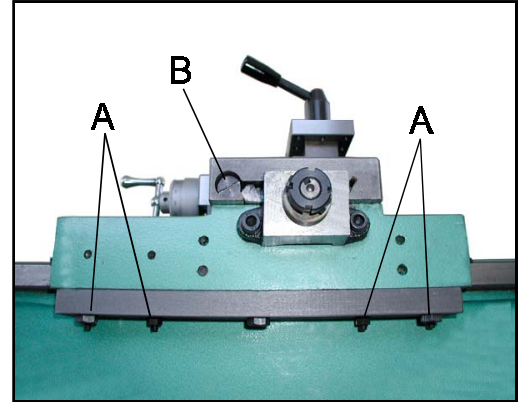

Fig. 23
1. Loosen three hex nuts (A, Fig. 23) found in the bottom rear of the cross slide and back off one full turn each.
1. Loosen the rear gib screw (B, Fig. 23) approximately one turn.